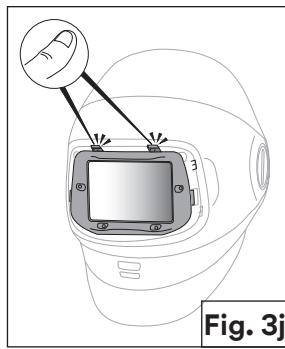

Fig. 3j
- g. Finally, reinstall the outer ADF frame by hooking on the left (as you face the welding helmet) and firmly push it into place on the right, again until an audible “click” is heard. (Fig. 3j).